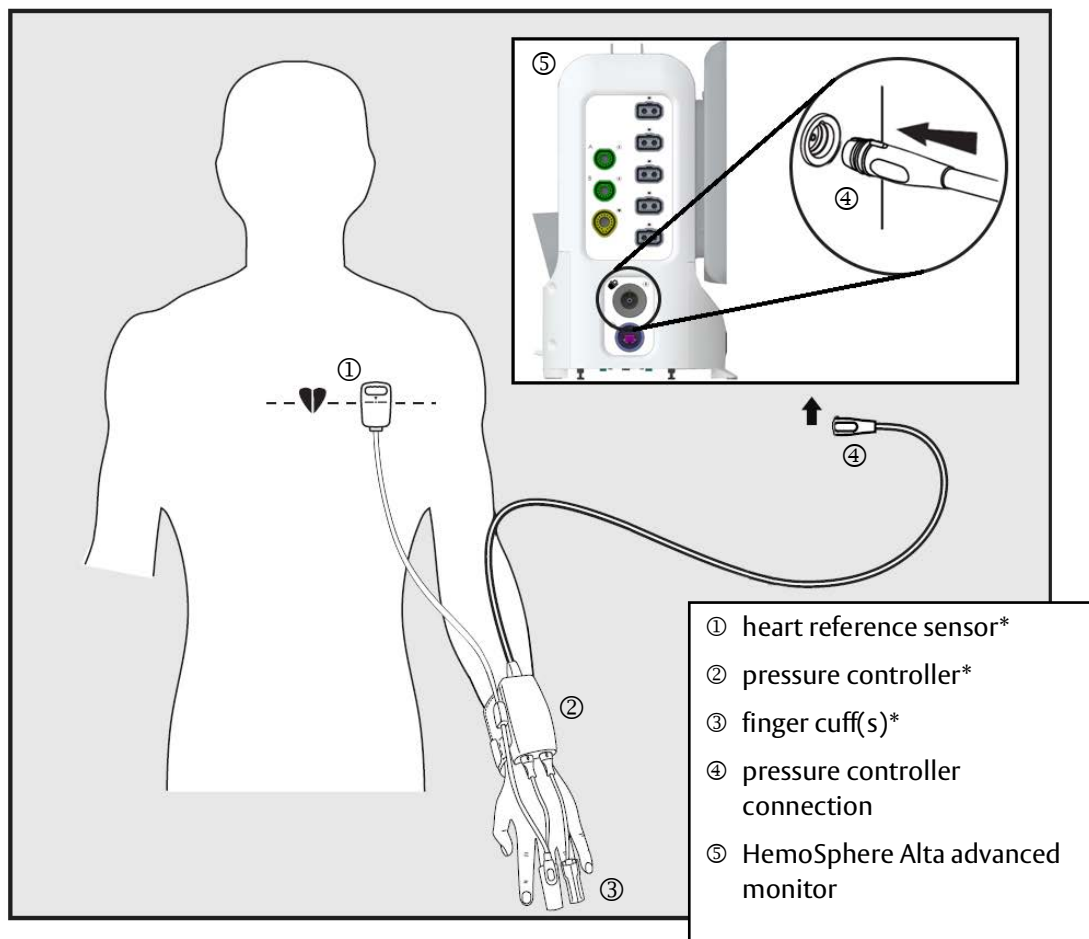

Figure 10-1 HemoSphere non-invasive system connection overview
The HemoSphere Alta ClearSight non-invasive monitoring system is composed of the HemoSphere Alta advanced monitoring platform with connected pressure controller, heart reference sensor, and compatible Edwards finger cuff(s). See system connections in Figure 10-1 on page 175. Accurate measurement of the patient's blood pressure and key hemodynamic parameters is based on the Volume Clamp method, Physiocal method and ClearSight algorithm.
HemoSphere Alta ClearSight technology is compatible with all approved Edwards finger cuffs. See figure 10-1 for an overview of the HemoSphere Alta non-invasive system connections.
NOTE Components indicated by a “*” in figure 10-1 legend are APPLIED PARTS as defined in IEC 60601-1 that in normal use necessarily come into physical contact with the patient for the HemoSphere Alta non-invasive system to perform its function.
- 3 Attach the pressure controller cable to the HemoSphere Alta advanced monitor. (figure 10-1)